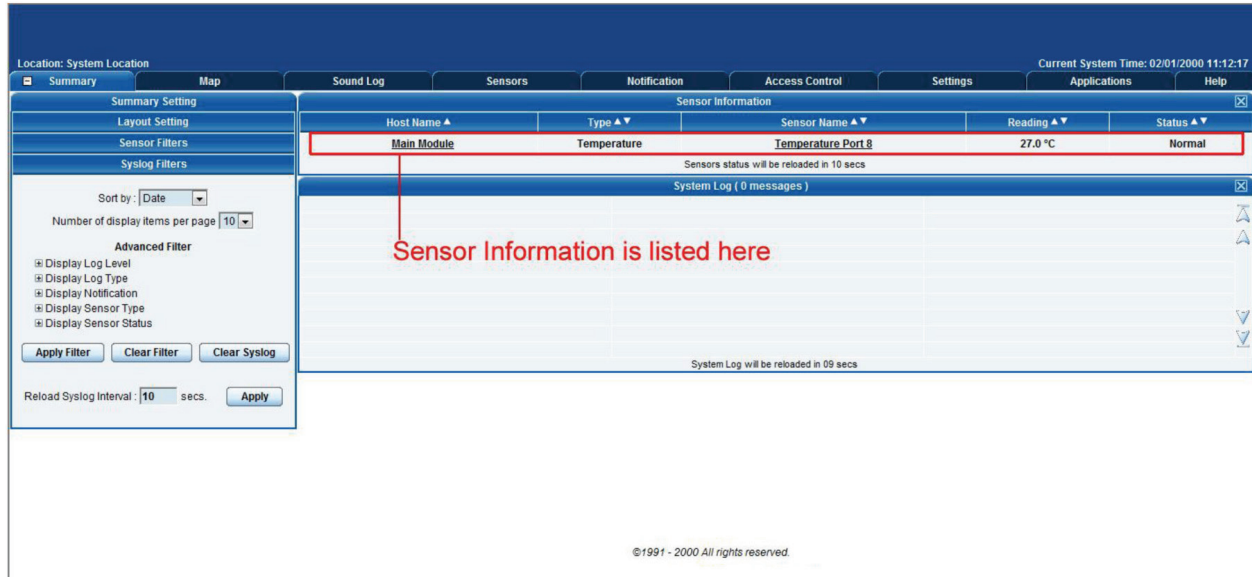

Figure 3-29. Summary page.
2. Point your browser to the ServSensor’s IP address (the default is 192.168.0.100). Log in as the administrator using your administrator password (the default is “public”). You will then be taken to the summary page shown in Figure 3-29.
3. Click on the temperature sensor's name (indicated in Figure 3-29). This will bring you to Figure 3-30, the Sensors page.